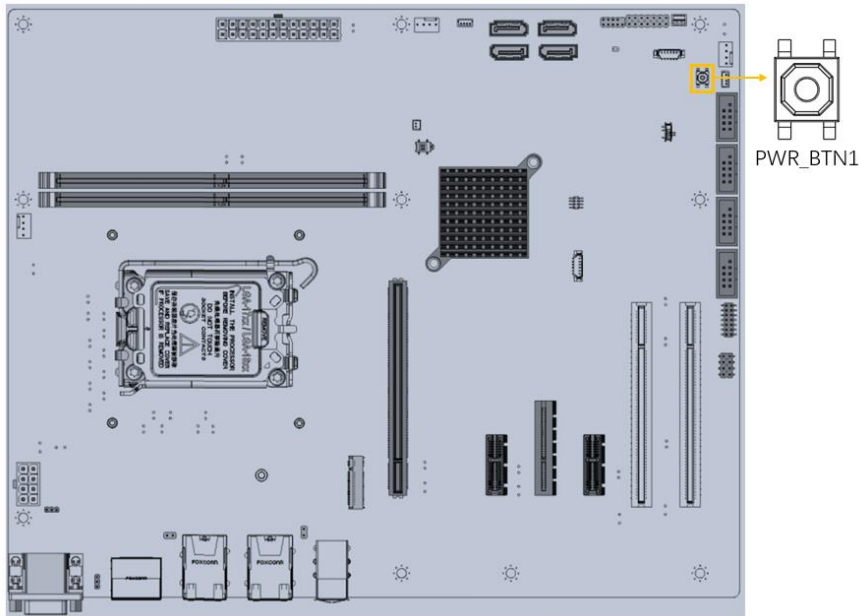

Figure 3-32: Power Button Location
- CN Location:** See Figure 3-32